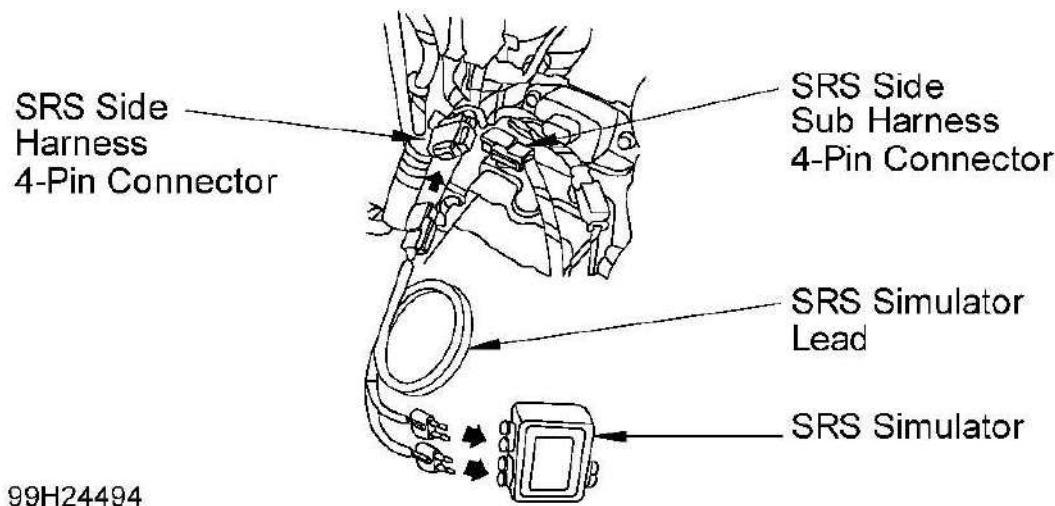

Fig. 29: Locating Right Side Sub Wire Harness
3. Disconnect negative battery cable and wait 3 minutes. Disconnect SRS side sub harness 4-pin connector (located under center console, between SRS unit and rear blower motor, clipped to floor bracket) from right side wire harness 4-pin connector. See **Fig. 29** . Connect SRS Simulator Lead "D" (07XAZ-SZ30100) and SRS Inflator Simulator (07SAZ-TB4011A) to SRS side harness 4-pin connector. Reconnect negative battery cable. Erase DTC memory. Retrieve DTCs. If DTC 4-1 is indicated, go to next step. If DTC 4-1 is not indicated, replace right SRS side sub wire harness.
3. Disconnect negative battery cable and wait 3 minutes. Disconnect SRS side sub harness 4-pin connector (located under center console, between SRS unit and rear blower motor, clipped to floor bracket) from right side wire harness 4-pin connector. See **Fig. 29** . Connect SRS Simulator Lead "D" (07XAZ-SZ30100) and SRS Inflator Simulator (07SAZ-TB4011A) to SRS side harness 4-pin connector. Reconnect negative battery cable. Erase DTC memory. Retrieve DTCs. If DTC 4-3 is indicated, go to next step. If DTC 4-3 is not indicated, replace right SRS side sub wire harness.
3. Disconnect negative battery cable and wait 3 minutes. Disconnect SRS side sub harness 4-pin connector (located under center console, between SRS unit and rear blower motor, clipped to floor bracket) from right side wire harness 4-pin connector. See **Fig. 29** . Connect SRS Simulator Lead "D" (07XAZ-SZ30100) and SRS Inflator Simulator (07SAZ-TB4011A) to SRS side harness 4-pin connector. Reconnect negative battery cable. Erase DTC memory. Retrieve DTCs. If DTC 4-4 is indicated, go to next step. If DTC 4-4 is not indicated, replace right SRS side sub wire harness.
3. Disconnect negative battery cable and wait 3 minutes. Disconnect SRS side sub harness 4-pin connector (located under center console, between SRS unit and rear blower motor, clipped to floor bracket) from right side wire harness 4-pin connector. See **Fig. 29** . Connect SRS Simulator Lead "D" (07XAZ-SZ30100) and SRS Inflator Simulator (07SAZ-TB4011A) to SRS side harness 4-pin connector. Reconnect negative battery cable. Erase DTC memory. Retrieve DTCs. If DTC 4-5 is indicated, go to next step. If DTC 4-5 is not indicated, replace right SRS side sub wire harness.